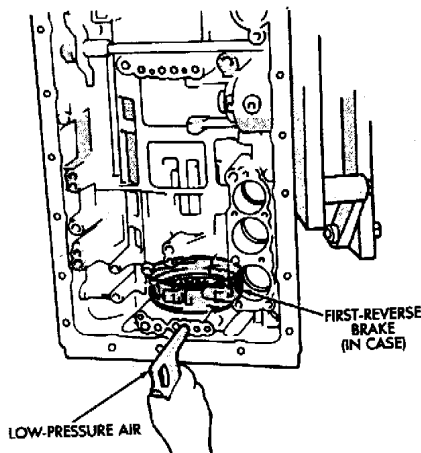

Fig. 3 Checking First-Reverse Brake Piston Operation
(2) Check first/reverse brake piston operation with compressed air (Fig. 3). Piston should move smoothly and not bind or stick. If piston operation is incorrect, case or piston may require replacement.